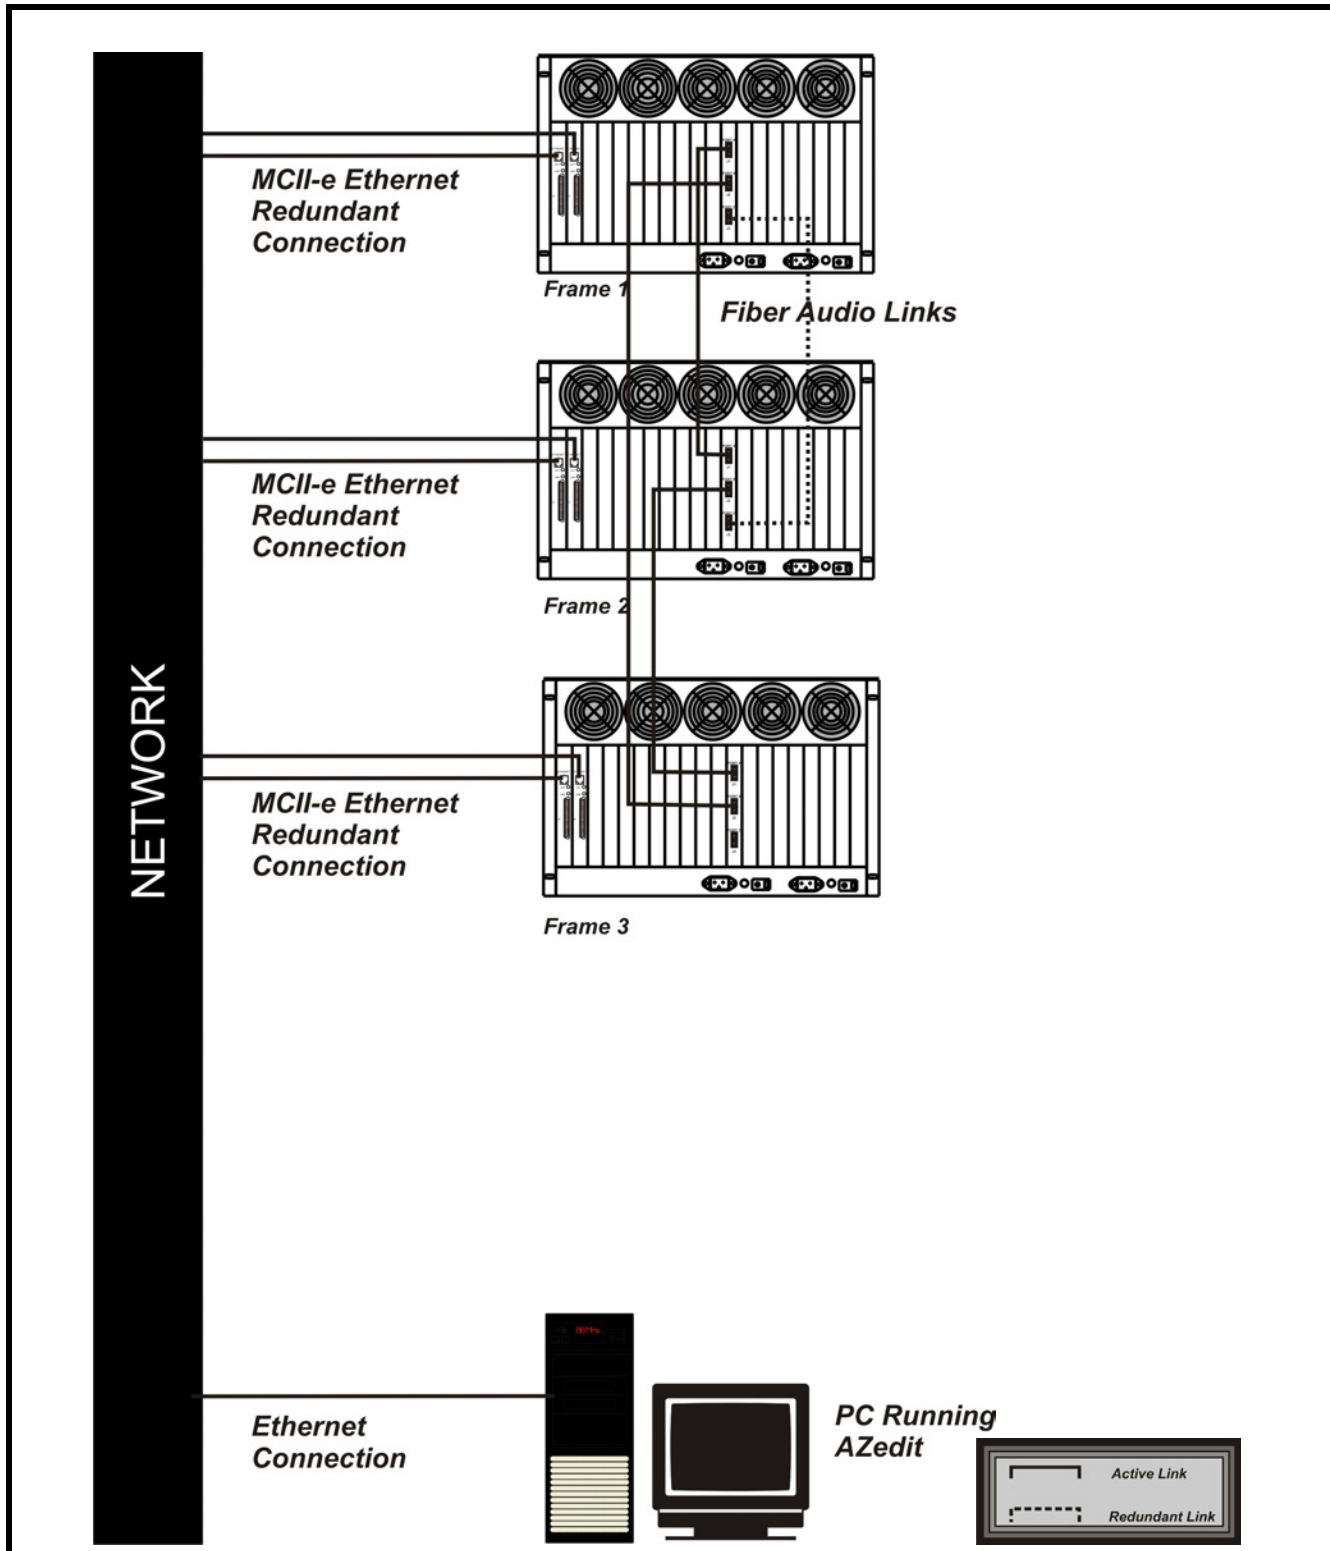

FIGURE 30. Partially Redundant system, including failover Master Controller
In a **Partial Redundancy** systems, multiple frames, but not all frames, have two links configured between them. In the example shown in Figure 30, Frame 1 and Frame 2 have full redundancy between them; however, Frame 3 has only one (1) link to Frame 1. This means if the fiber connection between Frame 1 and Frame 3 is broken, Frame 3 can not send or receive audio.